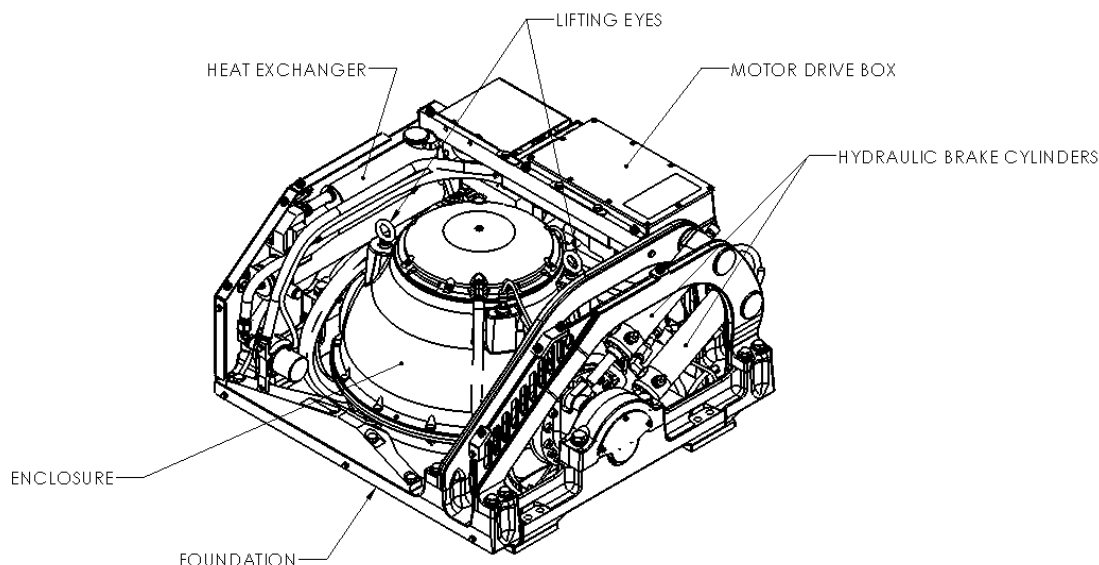

FIGURE 1 – SEAKEEPER 6
- While handling / installing Seakeeper assembly, protect exposed hydraulic brake cylinder rods (See Figure 1) from scratches or damage as this could lead to premature seal failure and oil leaks.